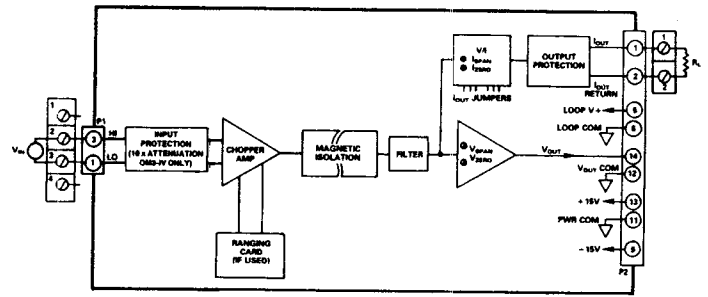

Figure 2.1.8.1 3B30 and 3B31 Functional Block Diagram
1. Connect model OM3-IMV (OM3-IV) as shown in Figure 2.1.8.1 with $R_L = 250\Omega$.